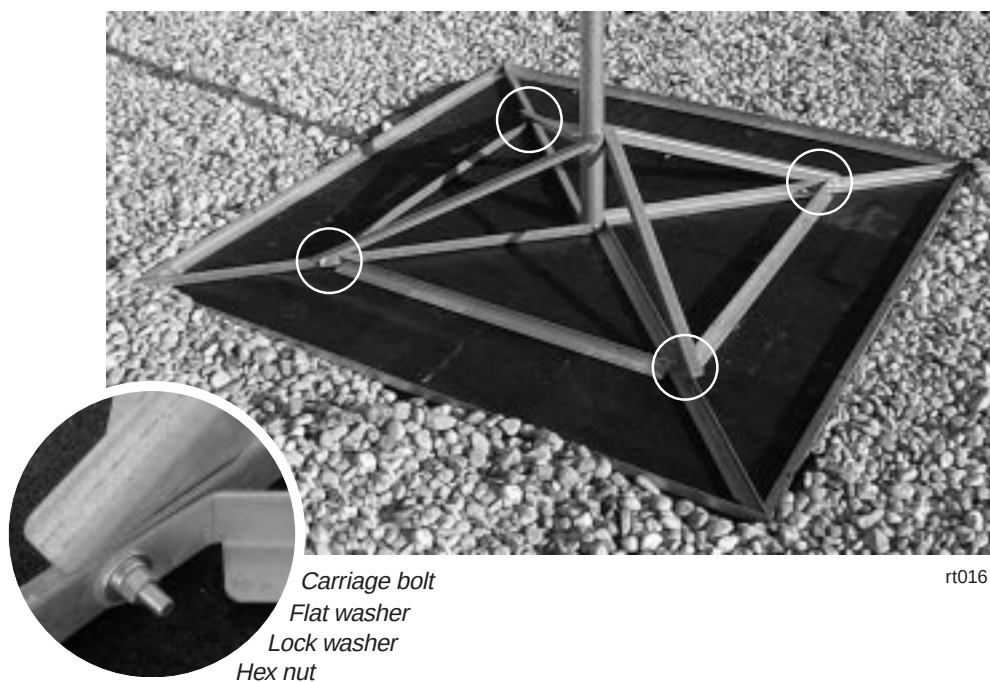

Figure 5-7 Attaching inner brace angles to diagonal base angles and mast brace angles
7. Place the inner brace angles on the rubber pad and connect them to the diagonal base angles and mast brace angles as shown in figure 5-7.